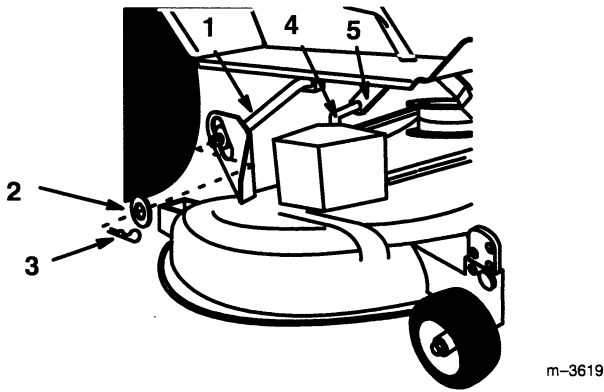

Figure 13
- Remove 2-9/16" hairpin cotter and 1/2" washer from rear link and remove from attachment lift (Fig. 13).
- Remove (2) 3-3/8" hairpin cotters and (2) 3/4" washers from rear lift arms (Fig. 13).
- Slide deck right, off rear lift arms (Fig. 13).